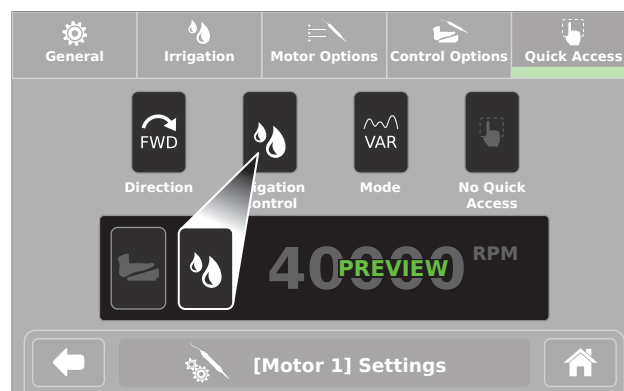

Figure 27 – Quick Access Screen
- The PREVIEW area displays a glimpse of the quick access area on the Home screen (Figure 27).
- Touch the applicable option (Direction, Irrigation Control, Mode, or No Quick Access) to set as the quick access button (Figure 27).
NOTE: In Figure 27, the Irrigation Control option was touched and appears in the PREVIEW area.